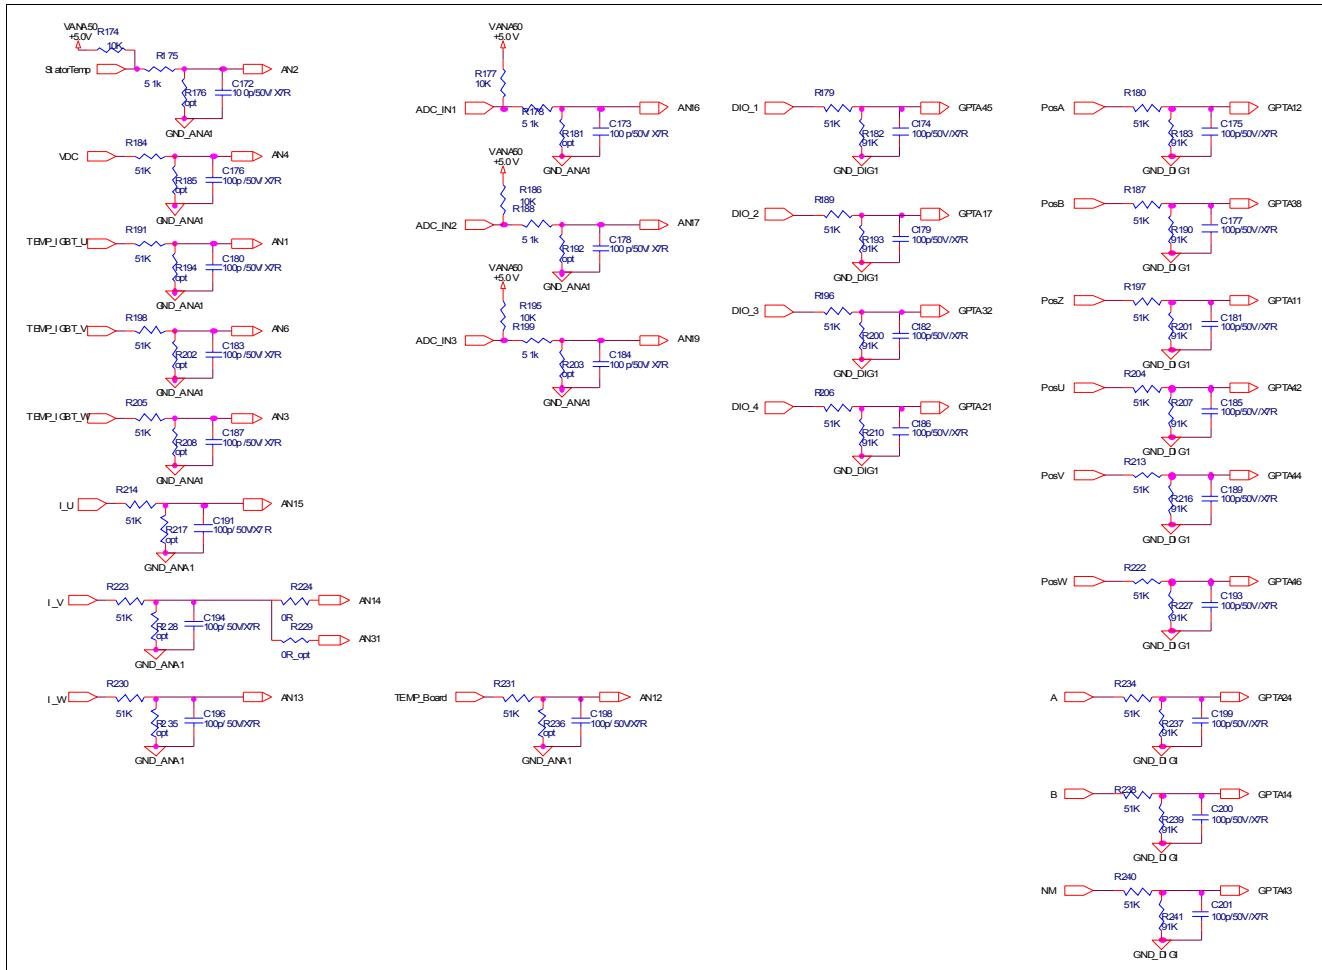

Figure 73 Input Filter Logic Board v1.2
- Input filter (see Figure 73 for Logic Board v1.2 and Figure 74 for Logic Board v1.3b): passive filters for digital and analogue signals and voltage dividers for voltage level adaptation;
Phase current sensing signals should be connected to the Logic Board connector X1-SIG1/K2 to the pins I_U, I_V and I_W (Figure 73 for the Logic Board v1.2 and Figure 74 for the Logic Board v1.3b). The Logic Board is designed to work with current transducers (not provided with the Hybrid Kit) with voltage output proportional to the current (usually deploying Hall effect - like LEM sensors). User can take +5V (analog) available on the X1-SIG1/K2 pins to supply current transducers. The exact type of current transducer will be depend on many parameters in application, but usually the most important is the motor current consumption. Please notice that if you control 3-phase balanced synchronous system it is enough to measure just 2 phases, since the 3rd phase current can be calculated as algebraic combination out of the 2 measured currents.